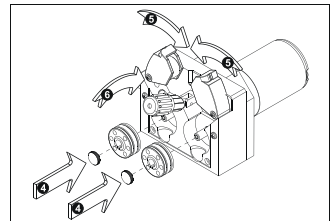

Figure 14: Installing the Wire Feeding Rolls
- After inserting the rollers to be used, re-install the screws and lower the pressure rollers and lift the pressure roller lever and lock it onto the print rollers (Figure 14).